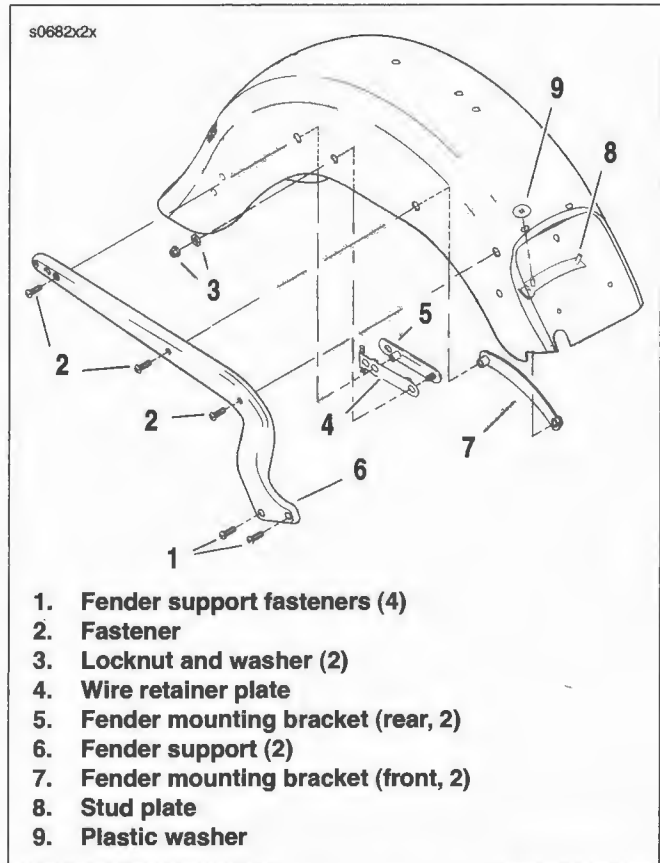

Figure 2-133. Rear Fender: FLSTF
6. See Figure 2-133. Remove fasteners (2) from front fender mounting brackets (7), rear fender mounting brackets (5) and wire retainer plates (4).